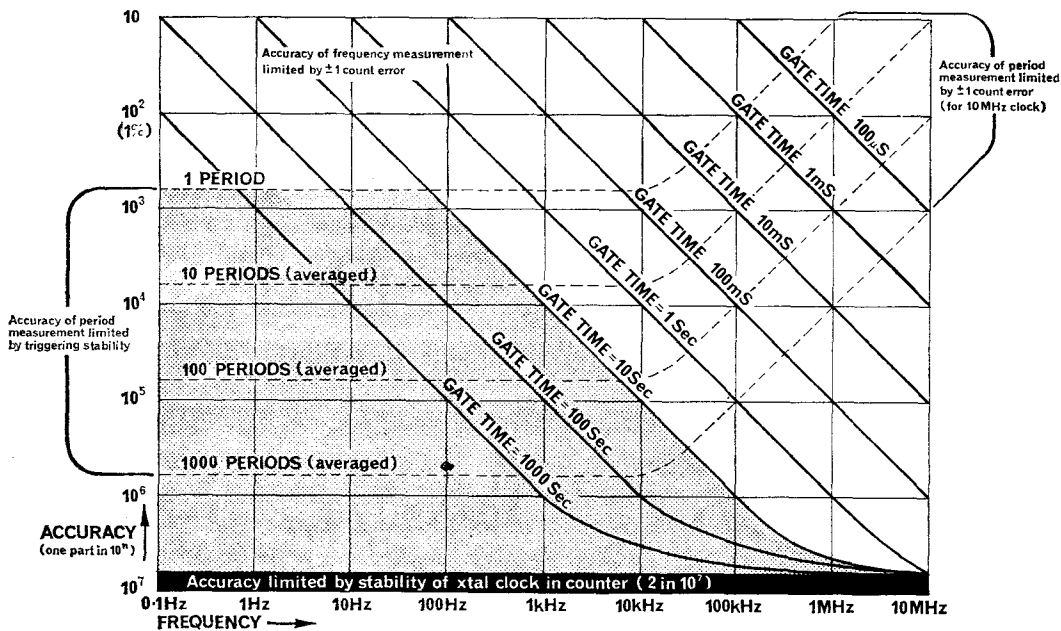

Fig. 9. Accuracy limits of counter/timers
16. The limit of accuracy of any given counter is determined by the stability of the internal clock, unless an external frequency standard is available. Most clocks are crystal controlled and have an accuracy considerably better than 1 part in 1 million. The small error introduced by the clock can therefore usually be ignored unless precision measurements are being made. Of far greater practical importance is the error of ± 1 count which is always present as it is a built-in feature of the counting action. This error means that the least significant digit, i.e., the right hand figure of the display, is always in doubt by plus or minus one. The significance of this accuracy limit depends on the method used to operate the counter and is illustrated in figure 9.
17. Frequency measurements. Suppose the frequency to be measured is 1MHz and the counter being used has a seven digit display. Referring to figure 9 it can be seen that choosing a gate time of 1mS will result in a displayed count of 0001000. kHz and as the final digit is in doubt the accuracy of this reading is 1 part in a thousand (1 in 10^3). If a gate time of 1 sec is chosen for the same count, the final display will be 1000000. Hz and the accuracy is now 1 in 10^6 . A gate time of 10 secs would result in a display of 000000.0 Hz as the most significant digit is now 'off-scale'. From these results it follows that the gate time chosen should be 1 sec as this gives the greatest accuracy without going off-scale. For all frequency measurements *the gate time used should be as long as possible* to reduce the error caused by the ± 1 count limit of the instrument.
19. **Period measurements at low frequencies.** When measuring low frequencies, the number of cycles occurring in the gate period is very small and frequency counting becomes inaccurate due to the ± 1 count error. To increase the count either an extremely long gate time must be used or the frequency must be calculated from a period time measurement. Referring to figure 9: a frequency of 10Hz can be measured to an accuracy of 1 in 10^2 by frequency measurement using a 10 sec gate; by period measurement an accuracy of 2 parts in 10^3 can be obtained over a single period and the measurement is made in a much shorter time (one-tenth of a second). The error present on the period measurement is due to the triggering instability (para 18) which has no effect on frequency count measurements. This error can be greatly reduced if the counter used provides facilities for measurement over decade multiples of the input period. If the reading was made over 10 cycles the error would fall to 2 in 10^4 and over 100 cycles to 2 in 10^5 ; note that these measurements could still be made in 10 secs. for a frequency of 10Hz.
20. **Choice of measurement method.** Whether a particular frequency is measured by a frequency count or by periodic time measurement depends on the characteristics of the instrument used. As an example of this, the Marconi TF1417/2 counter has a maximum internal gate time of 10 secs and will only measure over a single period (see shaded area of figure 9). This means that for frequencies below 100Hz period measurements will be more accurate than frequency counting. It is not advisable to attempt period measurements on a sine wave in the presence of noise as this could result in quite large errors.